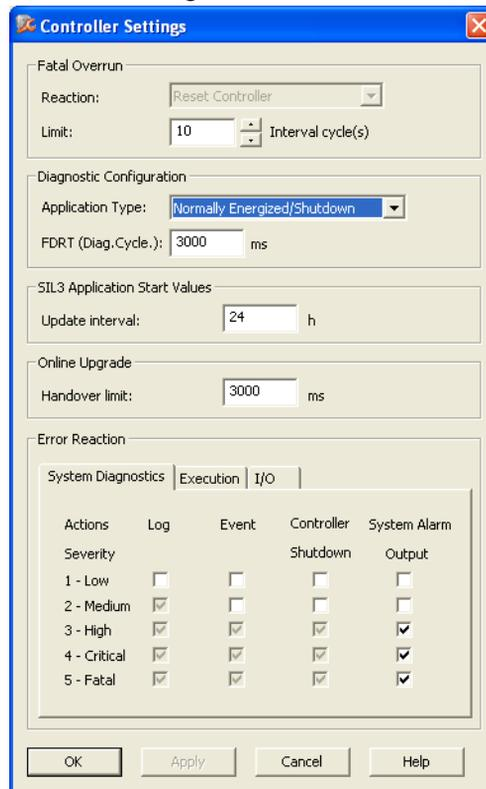

Figure 172. Controller Settings dialog for an AC 800M High Integrity controller.
The Controller Settings dialog is different for an AC 800M High Integrity (HI) controller. It is displayed by right-clicking the (HI) controller in Project Explorer and selecting **Properties > Controller Settings**. There are also differences regarding what can be configured for the Error Handler, see Figure 172.